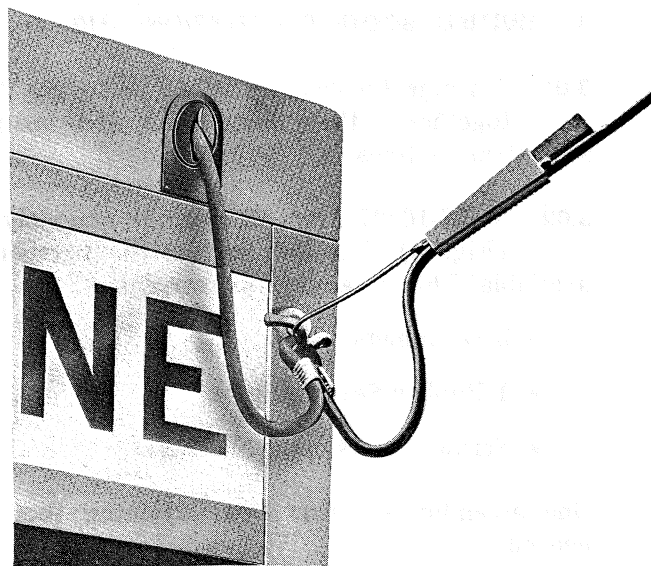

Fig. 4 – Drop Wire Hook (Right Side)
A. Drop Wire Hook (Fig. 4)
- (1) Drill 11/32-inch hole 2 inches below top of column and 1 inch from outside corner.
- (2) Attach drop wire hook with 5/16 by 2-inch stove bolt and 3/8-inch corrosion resistant washers.